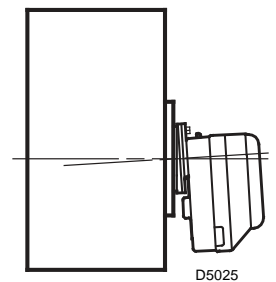

Fig. 5
- After installation ensure that burner is lightly inclined as in fig. 5.